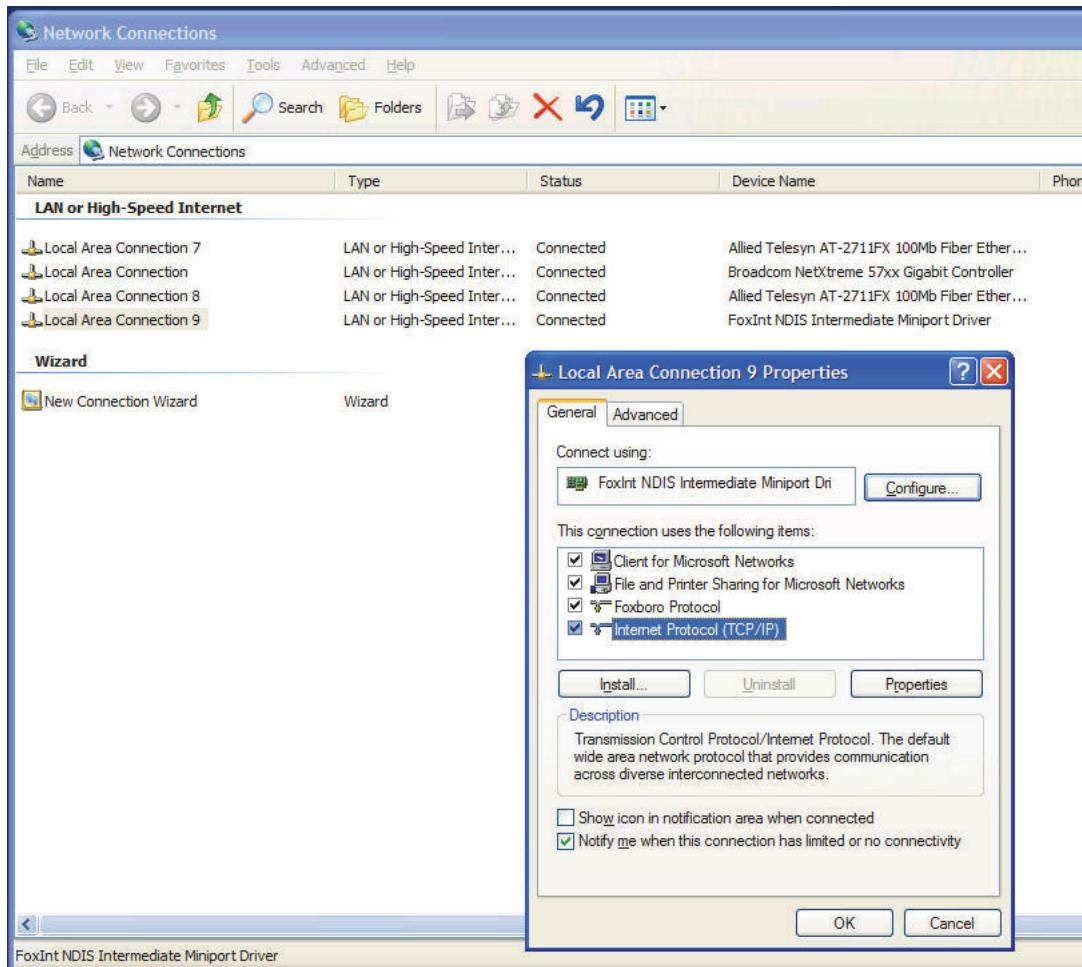
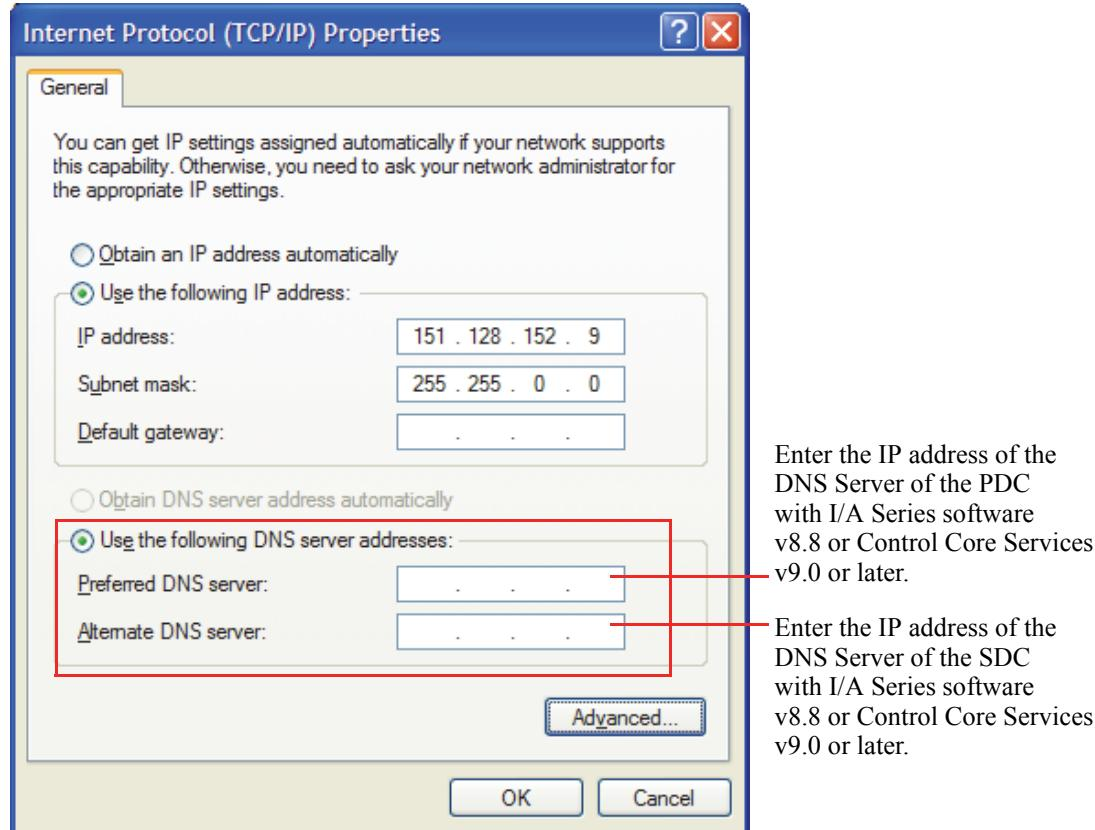

Figure 1-5. Local Area Connection Properties Dialog Box (v8.5-8.7)
Figure 1-6. Internet Protocol (TCP/IP) Properties Dialog Box (v8.5-8.7)
2. In a workstation that runs I/A Series software v8.5-8.7 in the same network, select Start -> Control Panel -> Network Connections, right-click the I/A Series intermediate Miniport driver (see Figure 1-5) and click **Properties**. In the adapter's Properties dialog box, in the “This connection uses the following items” area, click **Internet Protocol (TCP/IP)**, and then click **Properties** (an example is shown in Figure 1-6).
3. Next, set the DNS settings for the intermediate Miniport driver in this workstation, as shown in Figure 1-6. In the “Preferred DNS server” field, enter the DNS server IP address of the PDC. In the “Alternate DNS server” field, enter the DNS Server IP address of SDC. Then, click **OK** to apply the changes.